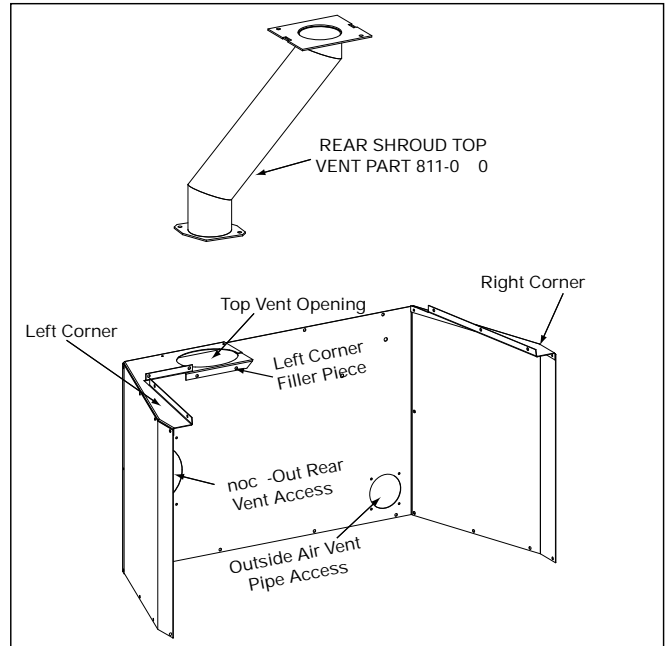

Figure 17.1
2. Use 2 screws to attach left corner filler piece of rear shroud to the insert hopper. **Figures 17.1 and 17.2.**
7. Use 2 screws to attach left corner filler piece of rear shroud to the insert hopper. **Figures 17.1 & 17.2 on page 17.**